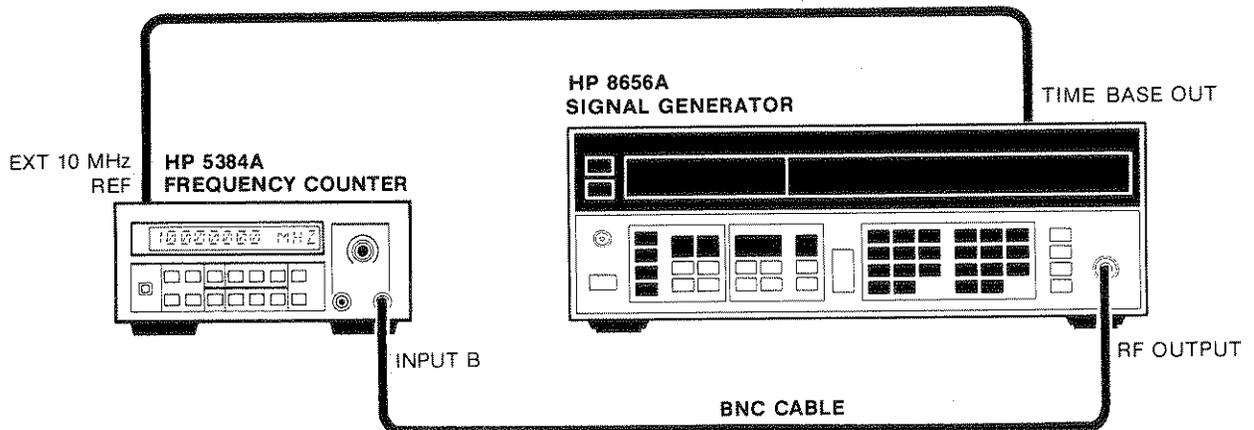

Figure 4-3. Channel B Frequency Response and Sensitivity Test Setup for HP 5384A
1. Connect the HP 8656A signal generator to the HP 5384A B channel input as shown in Figure 4-3.